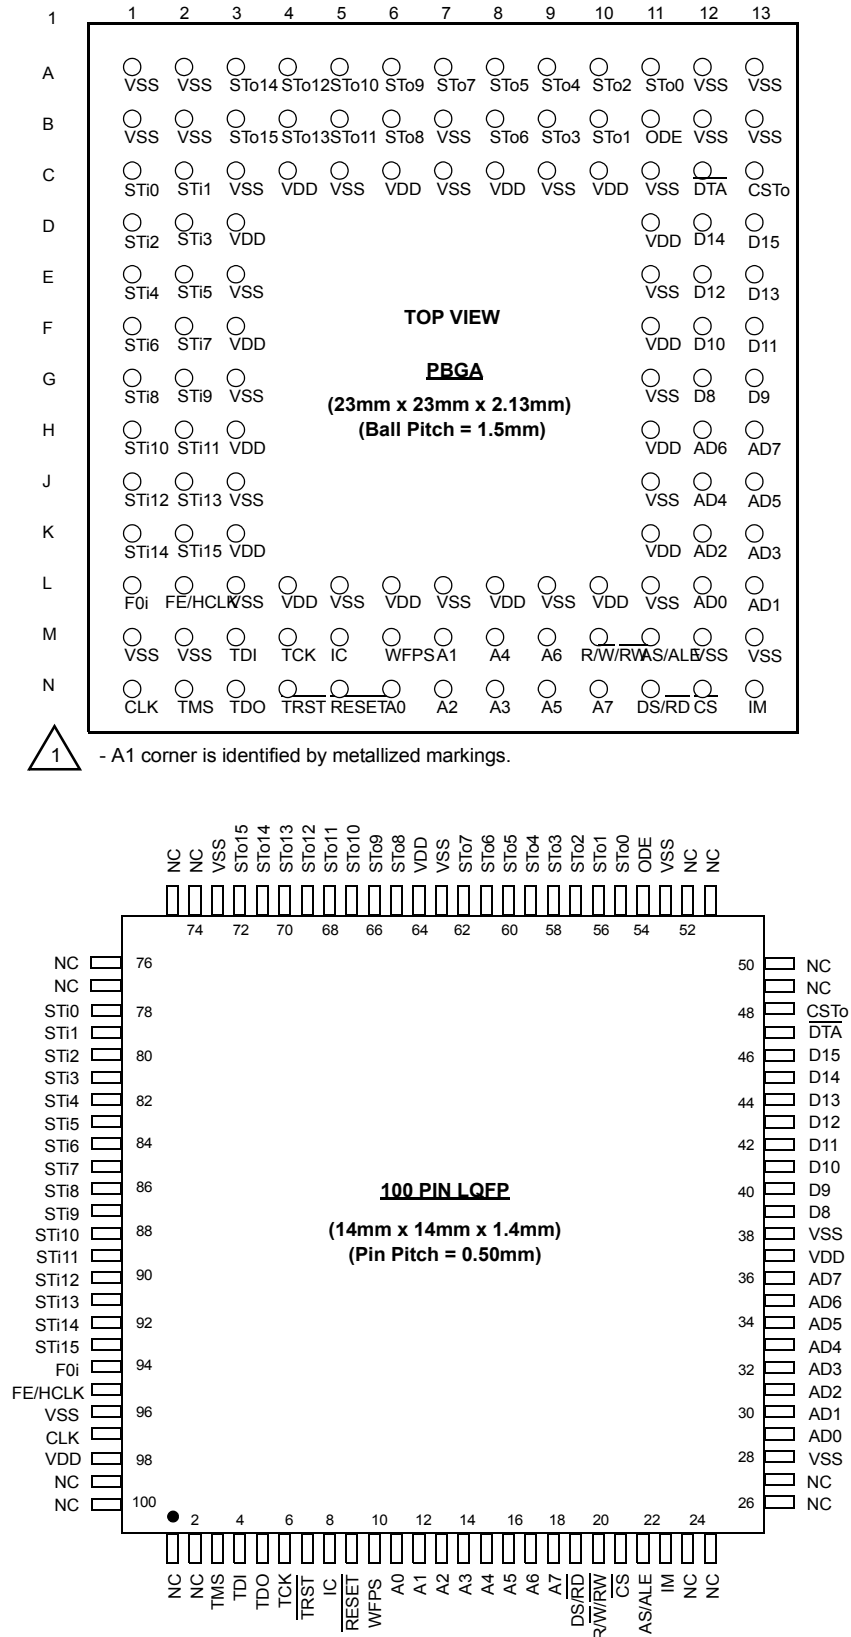

Figure 3 - PBGA and LQFP Pin Connections
In ST-BUS mode, the falling edge of the frame measurement signal (FE) is evaluated against the falling edge of the ST-BUS frame pulse. In GCI mode, the rising edge of FE is evaluated against the rising edge of the GCI frame pulse. See Table 10 and Figure 3 for the description of the frame alignment register.